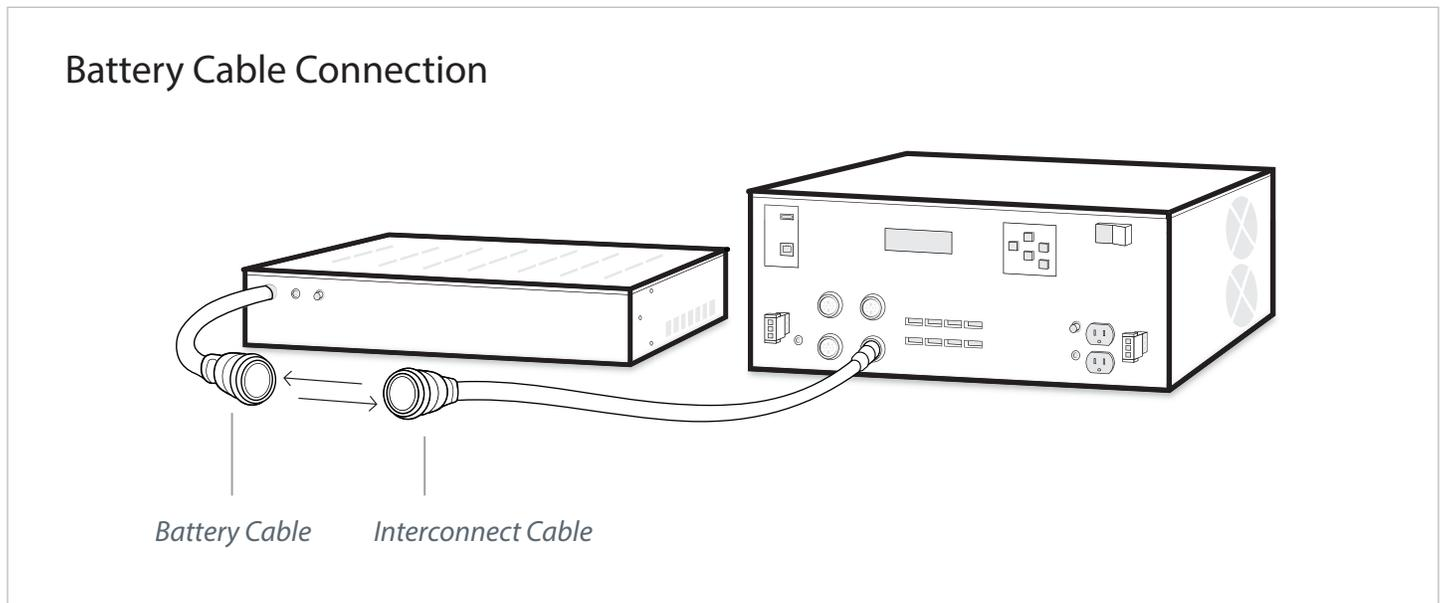

Figure 19: Battery Cable Connection
2. Then, connect the other end of the interconnect cable to one of the battery Inputs on the UPS. See figure 19.